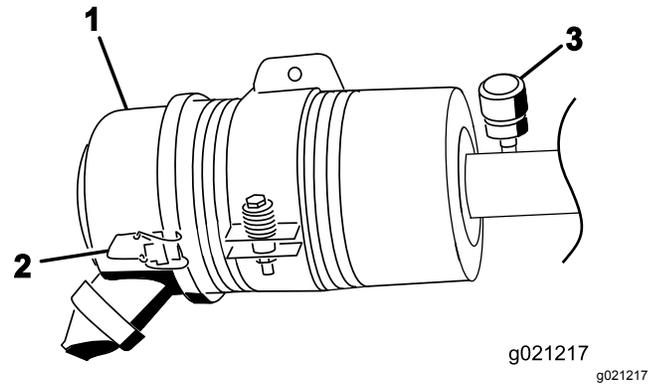

Figure 70
Service the air-cleaner filter only when the service indicator requires it (Figure 70). Changing the air filter before it is necessary only increases the chance of dirt entering the engine when the filter is removed.
1. Release the latches securing the air-cleaner cover to the air-cleaner body (Figure 70).